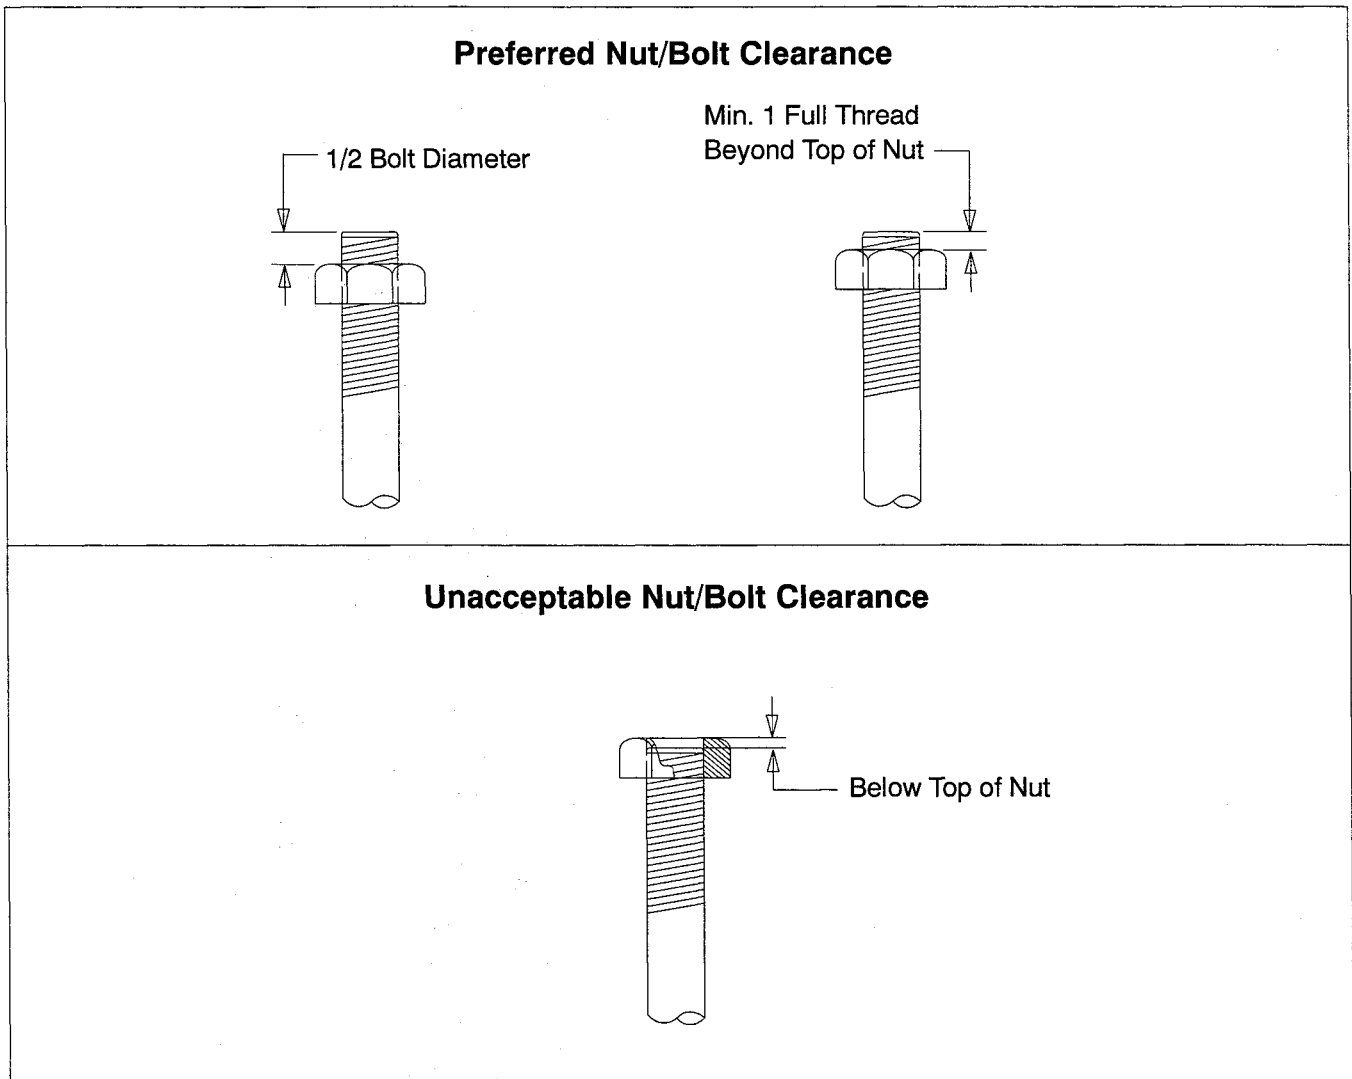

Figure 1. Acceptable Bolt Lengths
- **Bolt/Screw Length:** When bolt/screw length is not given, use Figure 1 as a guide. As a general rule, a minimum length of one thread beyond the nut and a